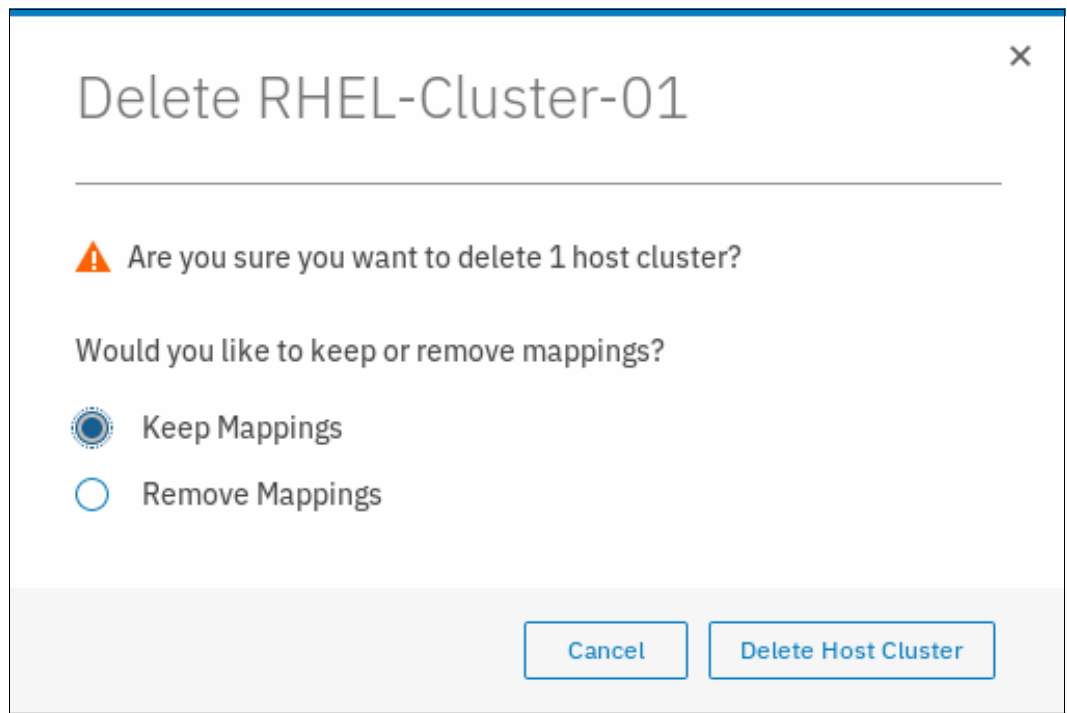

Figure 5-104 Confirm host cluster object deletion
3. A window opens in which you are prompted to confirm the deletion of the host cluster object along with your selection for mappings, as shown in Figure 5-104.